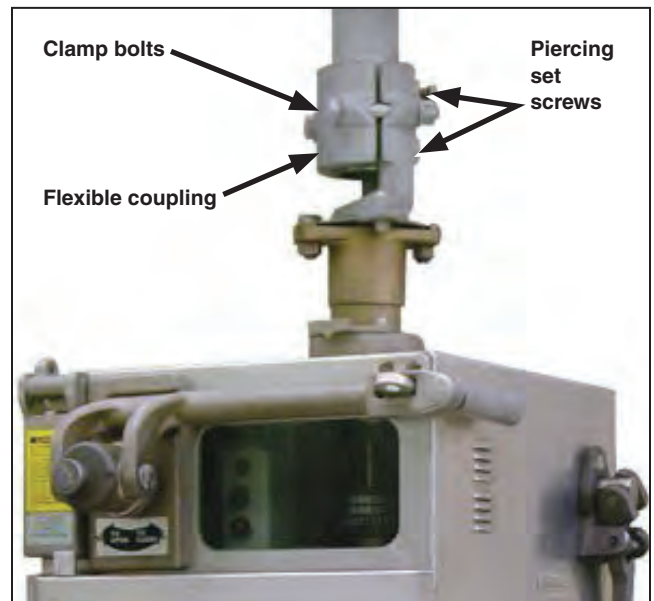

Figure 54. Tighten flexible coupling on operator output shaft.
- STEP 2.** Tighten the flexible coupling clamp bolts on the output shaft of the operator equally so the clamp pulls down evenly. Then, tighten the associated piercing set screws, piercing the shaft, and continue turning until a firm resistance is felt. See Figure 54.